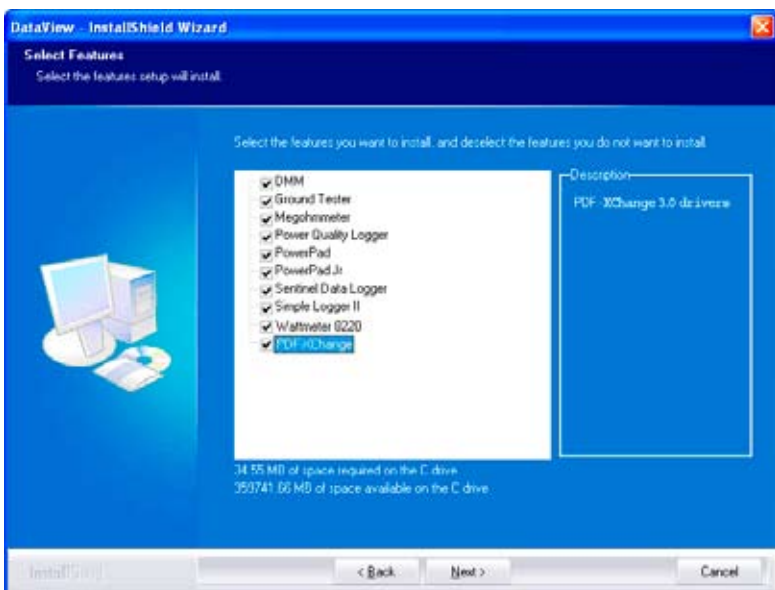
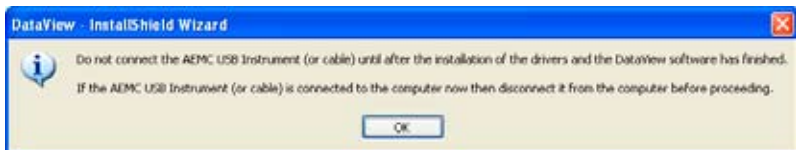

Figure 7-2
Figure 7-3
9. If the instrument selected for installation (see Figure 7-2) requires the use of a USB port, a warning box will appear, similar to Figure 7-3. Click **OK**.